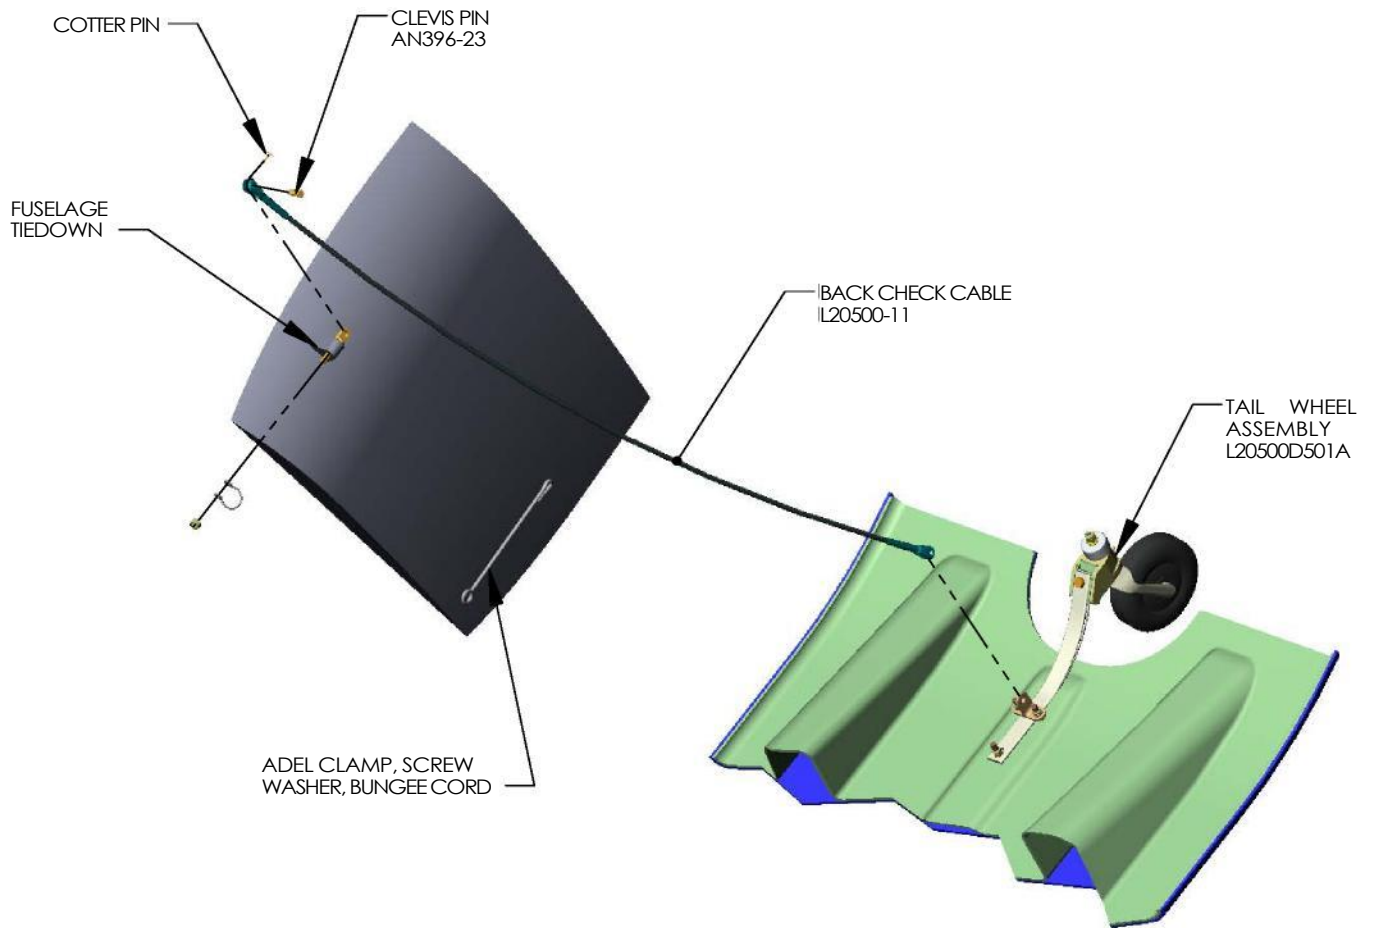

FIGURE 4
- h. Temporarily secure spring cylinder to sponson with safety tab holding main ski tail wheel assembly to ski and remove tail wheel assembly (Figure 4, page 7).
- i. Remove bolts, washers, nuts and rear safety tab holding main ski tail wheel assembly to ski and remove tail wheel assembly. (Figure 4, page 7).
- m. Install tail wheel assembly and rear safety cable to ski using bolts, washers, table and nuts. Ensure bolts are flush with bottom of ski (Figure 4, page 8). TORQUE NUTS TO 75 – 85 INCH-POUNTS
- q. Insert outboard ski axle into ski and thread ski axle into axle adapter (Figure 4, page 7, Detail B).
- v. Remove center screw and washer from ESSS access door on support fairing at STA 303.4. Install Adel clamp and bungee cord on safety cable to access door using screw and washer (Figure 4, page 7).
- hh. Remove bolts, washers and nuts from ski axles (Figure 4, page 7, Detail B).
- nn. Reinstall tail wheel assembly on ski using bolts, washers and nuts (Figure 4, page 7, Detail B).